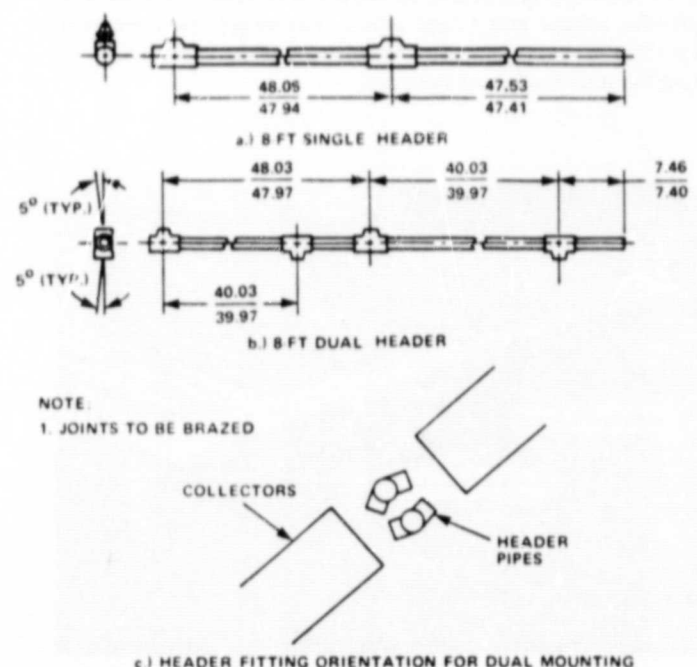
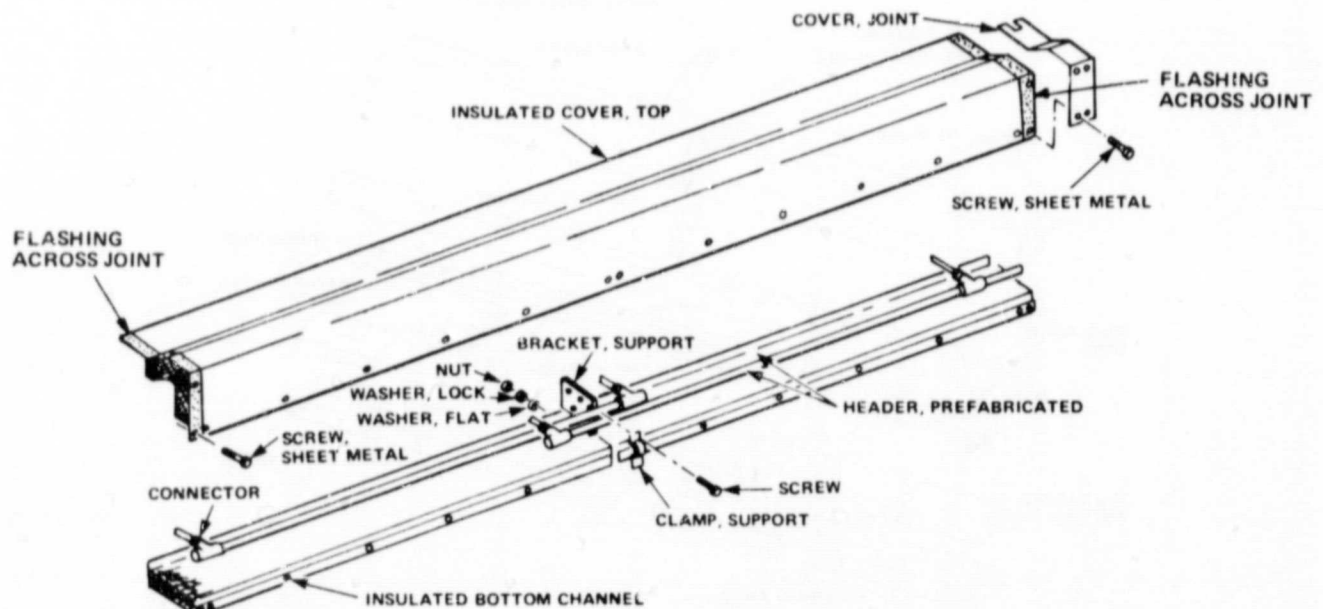

Figure 4-3. Header Dimensional and Orientation Requirements
Figure 5-4. Assembly of Single Row Header Kit (8 Feet Long)
Recommended manifold configurations showing optional General Electric header accessory kits are shown in Figures 5-4 and 5-9 for single and dual arrangements, respectively. The kits provide prefabricated header piping in 4- and 8-foot lengths with correctly-spaced tee fittings and male connectors, prefab insulation, covers, pipe clamps, header support brackets, and all the necessary fasteners. Dimensional specifications for 8-foot on-site assemblies are shown in Figure 4-3.
For single row header assemblies (Figure 5-4):
5. Apply a silicone-based sealant around the gap before installing the joint covers. Install joint covers over the gaps between adjacent header covers with sheet metal screws as shown in Figure 5-4 and complete by crimping lips over the adjacent collector frames.